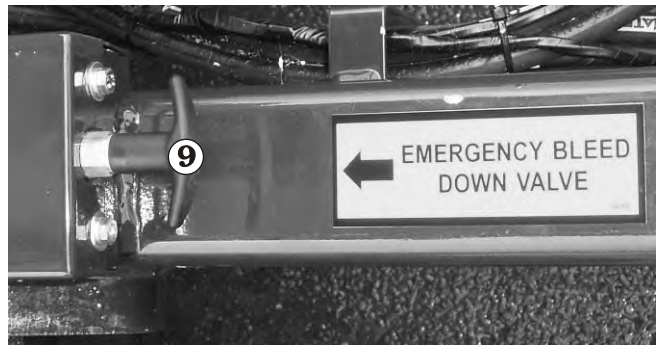

Figure 9.6 - Manual Bleed Down Control
6. If the platform will not lower, the person on the ground will need to use the manual bleed down ⑨ (see Figure 9.6) located at the front of the chassis. To lower the platform pull on the cable ⑨) until the platform is fully lowered.